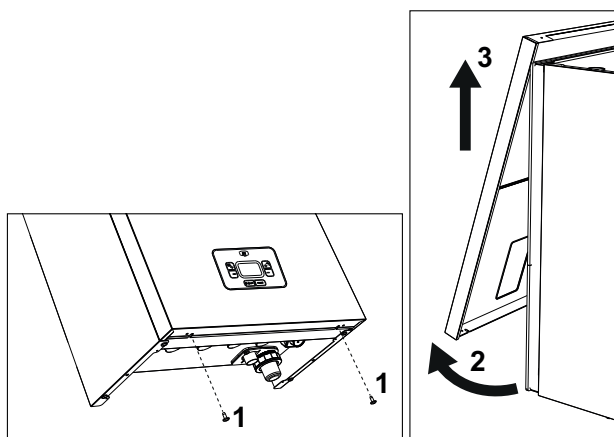

fig. 51- Front panel opening
1. Undo the screws "1" (see fig. 51).